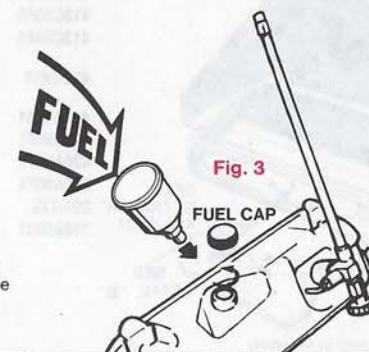

Fig. 3
3. Place tank on level surface resting at angle shown in fig. 3.